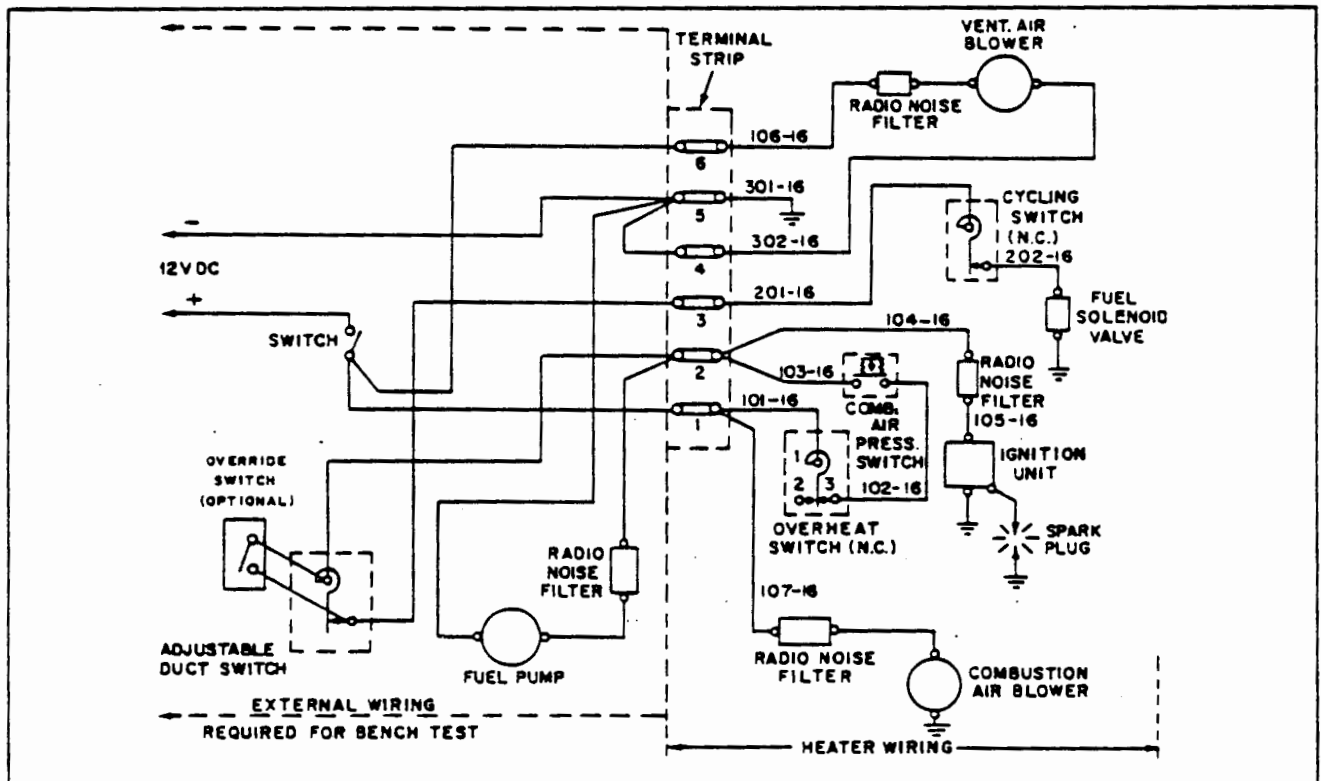

Figure 21-21. Wiring Connections for Heater Operation Test
3. Connect components and heater as outlined in the wiring connection diagram, Figure 21-21. The power supply switch should be open.